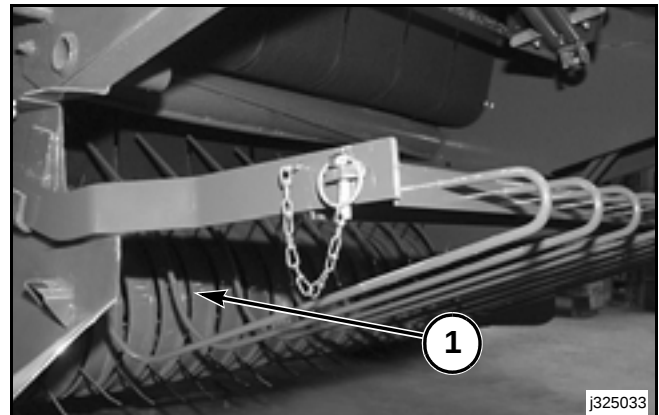

FIG. 24
FIG. 24: The pickup assembly (1) picks up and feeds the hay into the bale chamber. The major components of the pickup assembly are the rotor shaft, tine bars, cam track, windguard, and the pickup height control crank.